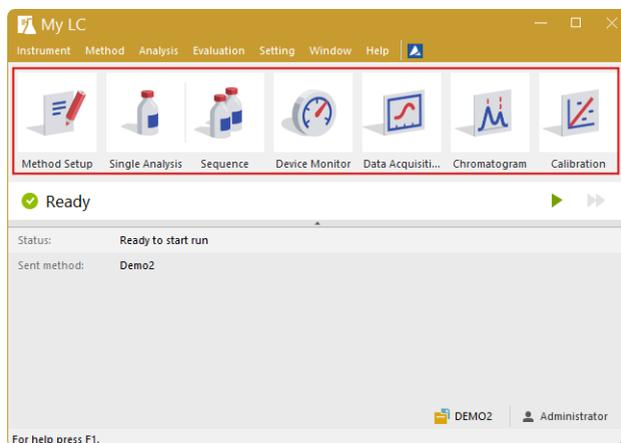

Fig. 13: Instrument window
The *Instrument* window will open. **Fig. 13** on pg. **19**. shows the most important icons in the *Instrument* window. During the tour, we will review all windows belonging to these icons.
- After the parameter setup, you can run the analysis by clicking the **Run** button ⑦. The **Single Analysis** dialog will close now. If you open it again, you will see three additional buttons (**Stop**, **Abort**, **Snapshot**) that will allow you to stop or abort the analysis or take snapshots (see the chapter "**Data Acquisition window**" on pg. 21.).
- In the **Instrument** window look at the **Status line** (see Fig. 13 on pg. 19.). The acquisition is now signaled by the **RUNNING** state and the actual run time is shown there.
- To see the data acquisition in process and control it if necessary, click the **Data Acquisition**  icon (see Fig. 13 on pg. 19.) to open the **Data Acquisition** window.
- Depending on your Instrument's configuration, one or more signals may be displayed. The number of detectors (signals) and their names can be seen in the upper right corner of the graph ①.